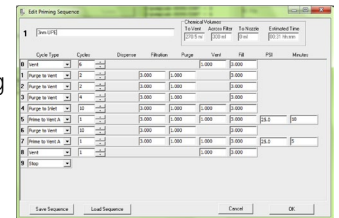

Fig. 2. Priming sequence screen shot
- ▶ Fig. 2 shows the priming sequence used for all filtration method testing with same priming sequence. However, faster filtration rates (3 mL/sec) could be used when the new filtration control method was enabled, which allowed the priming sequence to run 10% faster than with the standard filtration control method, where filtration rate was limited to 0.5 mL/sec for step 1, 1 mL/sec for step 2 and 1.5 mL/sec for steps 3 - 7 in order to eliminate the risk of an aborted priming.